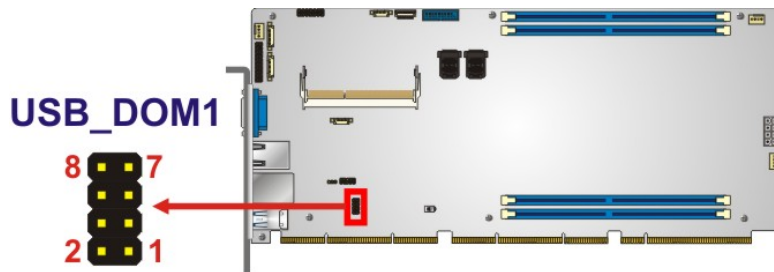

Figure 3-17: USB DOM Connector Location
- CN Location:** See **Figure 3-17**